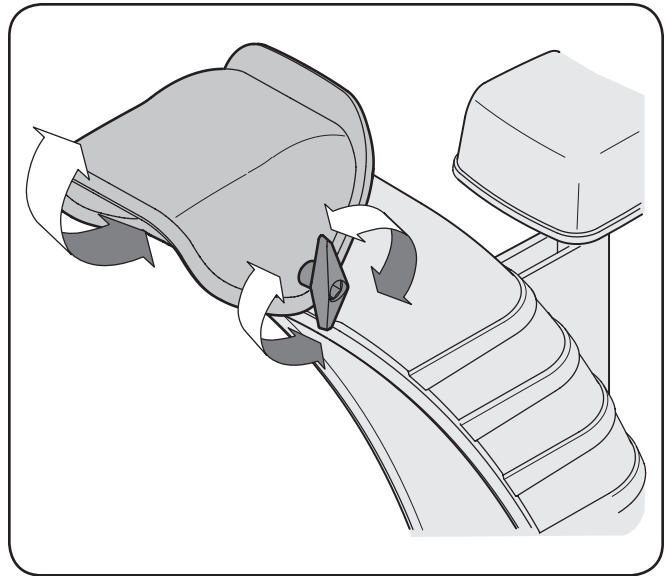

Figure 3-15
2. Pivot the chute upward or downward before retightening the wing knob. See Figure 3-15.